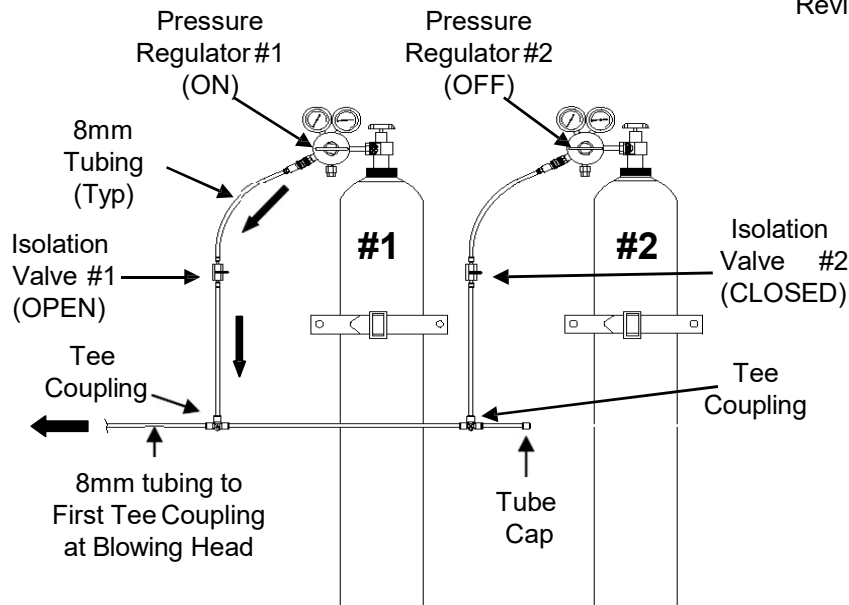

Figure 13
15.4 When ready to begin fiber bundle installation operations, open Isolation Valve #1. Perform normal installation procedures as described in this SRP. **See Fig. 13.**